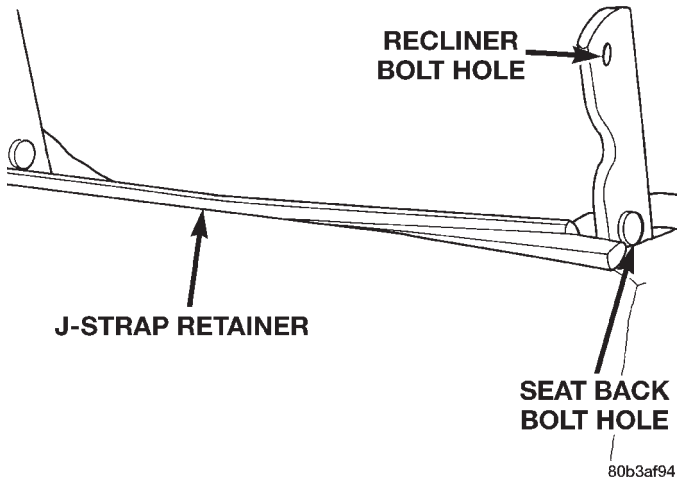

Fig. 6 Remove Seat Back
- (4) Remove inboard pivot bolt (Fig. 6).
- (5) Disconnect any electrical connectors to the seat back, if equipped.
- (6) Remove seat back from seat cushion.
- (1) Remove seat from vehicle.
- (2) Remove head restraint.
- (3) Remove front seat back.
- (4) Remove lumbar support handle, if equipped.
- (5) Disengage the J-strap retainer (Fig. 6).